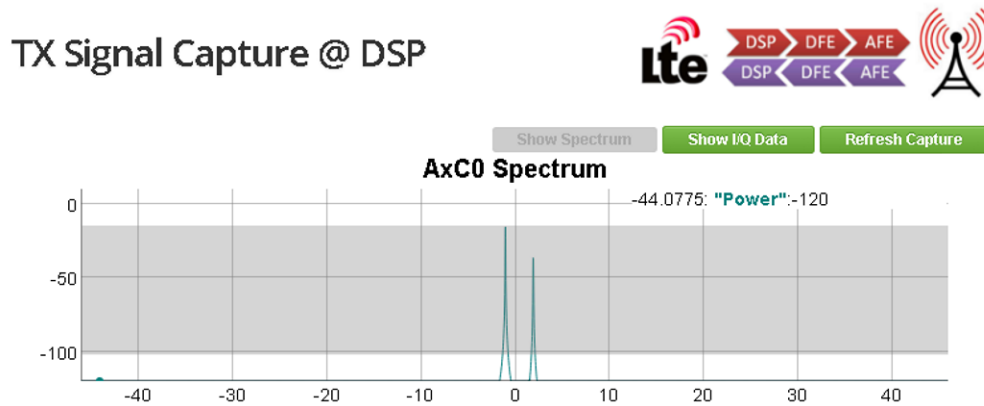
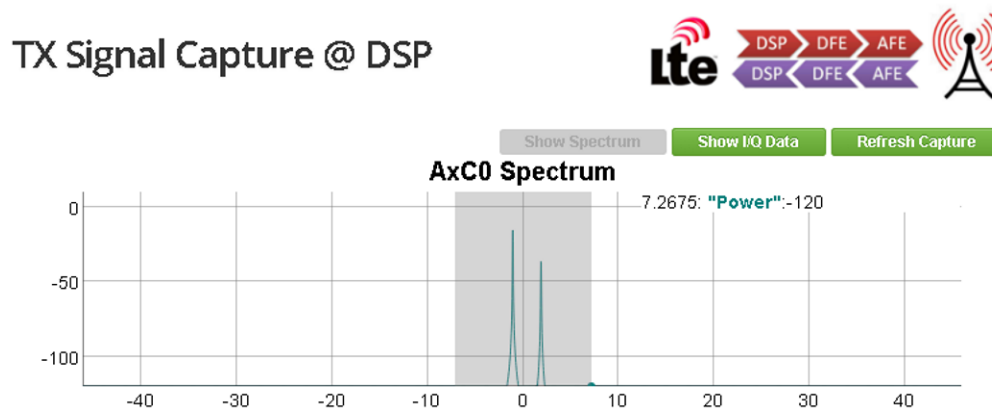

Figure 23. Changing Amplitude Scale on the GUI
Figure 24. Changing Frequency Scale on the GUI
14. Drag the mouse to zoom in on the graphs both vertically (to change the amplitude scale) and horizontally (to change the frequency scale) as shown in Figure 23 and Figure 24.